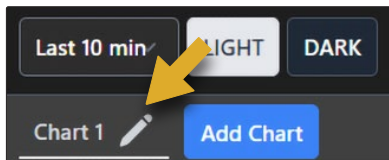

Figure 50
- a. Click the **edit**  icon to the right of the chart name to rename it. See Figure 50.